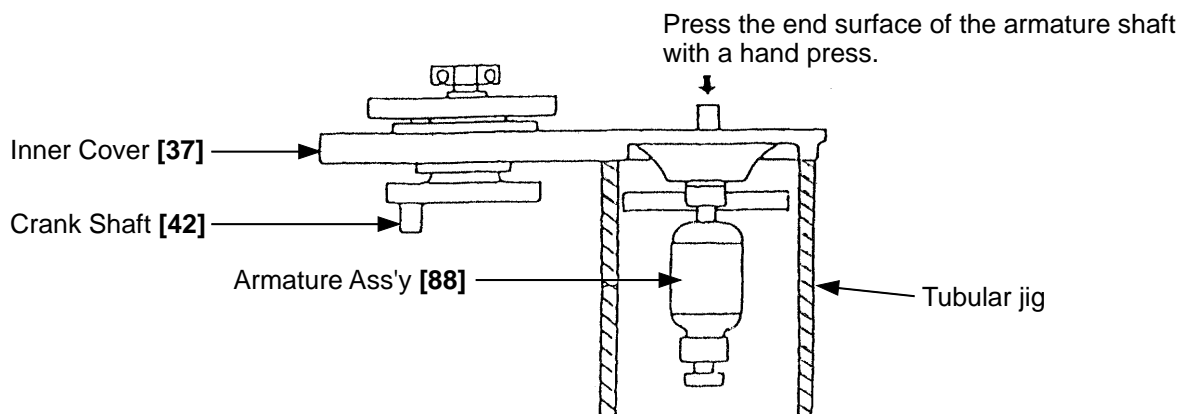

Fig. 6
- (1) Loosen the four Seal Lock Hex. Socket Hd. Bolts M4 x 12 **[56]**, remove the Cap Covers **[57]**, Cap Rubbers **[58]** and Brush Caps **[59]**, and take out the Carbon Brushes **[60]**. At this time, be very careful not to lose the disassembled parts.
- (2) Loosen the four Nylock Hex. Socket Hd. Bolts M8 x 35 **[22]**, and remove the Cylinder Case **[19]**. Next, after loosening the Seal Lock Hex. Socket Hd. Bolt M8 x 16 **[31]**, the Connecting Rod Ass'y **[28]** and Crank Washer **[30]** can be disassembled. Leave the Striker **[21]** and Piston **[26]** as they are.
- (3) Loosen the six Seal Lock Hex. Socket Hd. bolts M6 x 45 **[62]**, and disassemble the Gear Cover **[33]** and Counter Gear **[64]**. Then, by inserting a flat-blade screwdriver or similar tool into one of the air vents of the Inner Cover **[37]** and lifting it upwards, the Inner Cover **[37]**, Armature Ass'y **[88]**, Crank Shaft **[42]**, and related parts can be removed in a single body.
- (4) As illustrated in Fig. 6, support the Inner Cover **[37]** with an appropriate tubular jig, and push down on the end surface of the armature shaft with a hand press to separate the Armature Ass'y **[88]** from the Inner Cover **[37]**.